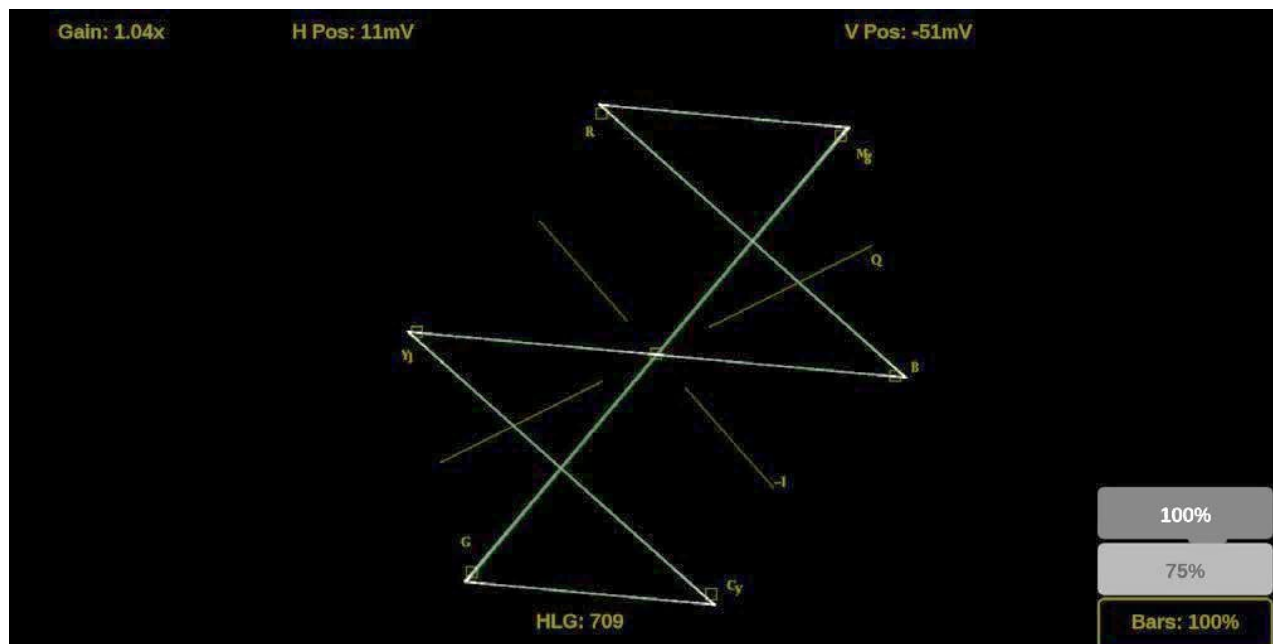

Figure 115: Vector on-screen tools – Bar Targets
1. Select the **Bars** button in the bottom right corner of the application to expand the available options. (See Figure 115.)